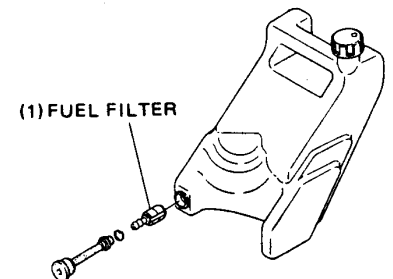

Fig. 21
- a. Clean as necessary. After all fuel drained from tank, gently pry out fuel filter with minus driver and wash it thoroughly in gasoline. After washing push it into the same place as before. (Fig. 21)